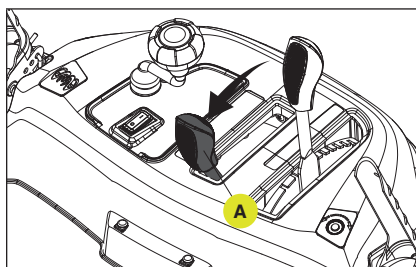

Figure 45
2. Move the chute deflector lever (A) all the way back to move the deflector to the highest, near vertical position. (Fig. 45)